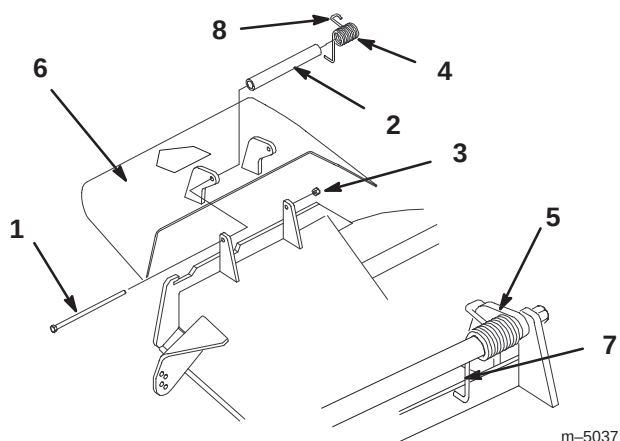

Figure 69
1. Remove the locknut, bolt, spring and spacer holding the deflector to the pivot brackets (Fig. 69). Remove damaged or worn grass deflector.
Note: Make sure the L end of spring is installed behind deck edge before installing the bolt as shown in figure 69.
3. Install bolt and nut. Place J hook end of spring around grass deflector (Fig. 69).